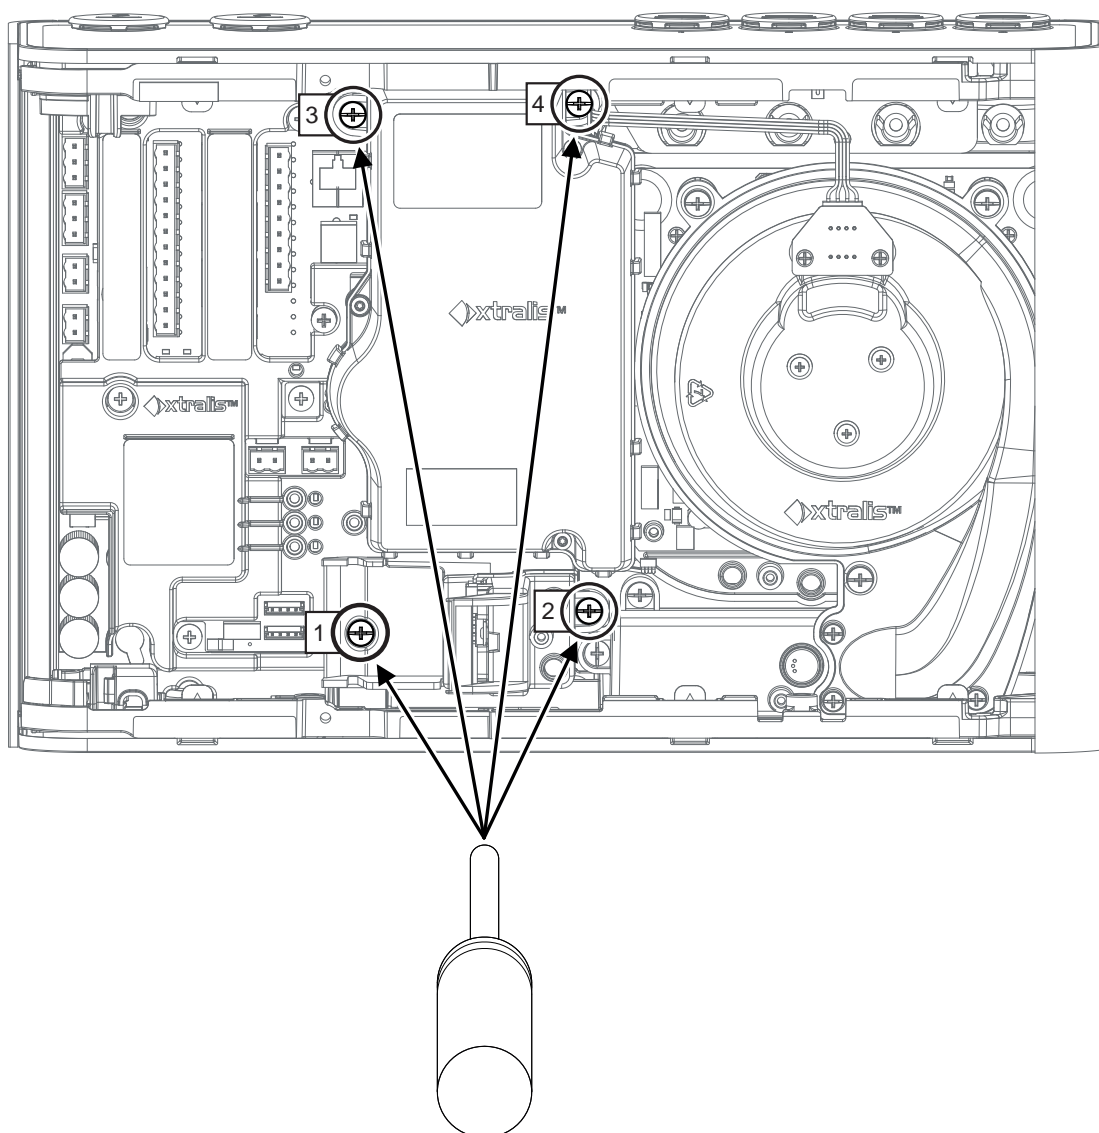

Figure 7-13: Undo Chamber retaining screws
3. Remove the four screws holding the chamber to the detector base (Figure 7-13).
4. Secure the four screws which hold the chamber to the detector base (Figure 7-13).